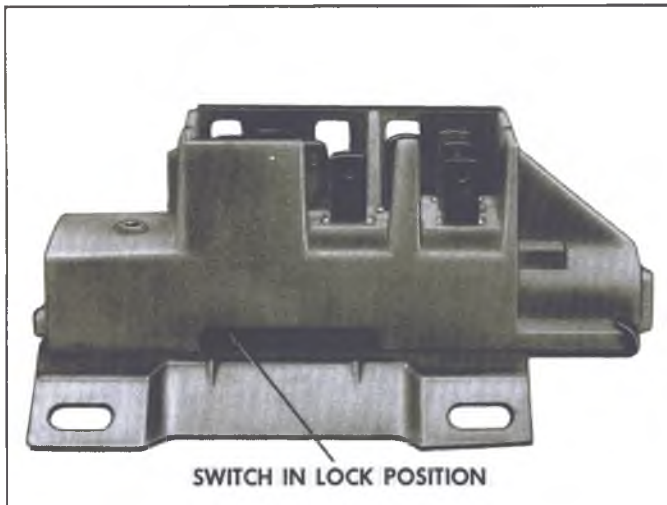

Fig. 59—Ignition Switch Assembly
1. Before replacing the switch, be sure that the lock is in the "Lock" position. Make certain that the switch is in "Lock" position (fig. 59); if it is not, a screwdriver (placed in the locking rod slot) can be used to move the switch to "Lock".